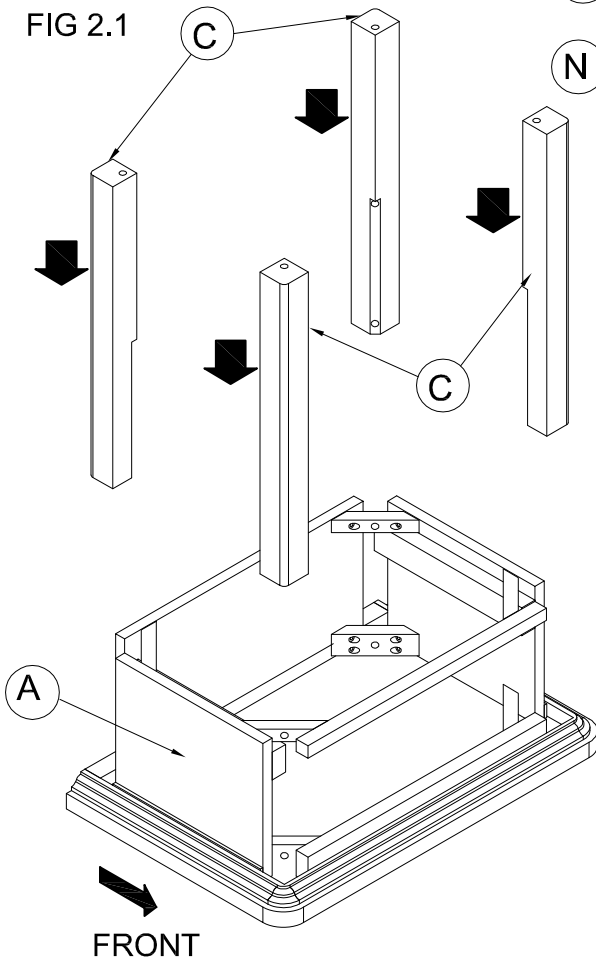

FIG 2.2
- Insert the 8 (eight) Allen bolts 2" (50 mm) (K) and spring washers (W) first through the holes in the corner blocks, then into the threaded inserts in the legs, as shown in FIG.2.2 & FIG.2.3. Tighten all bolts with the Allen Key (N).